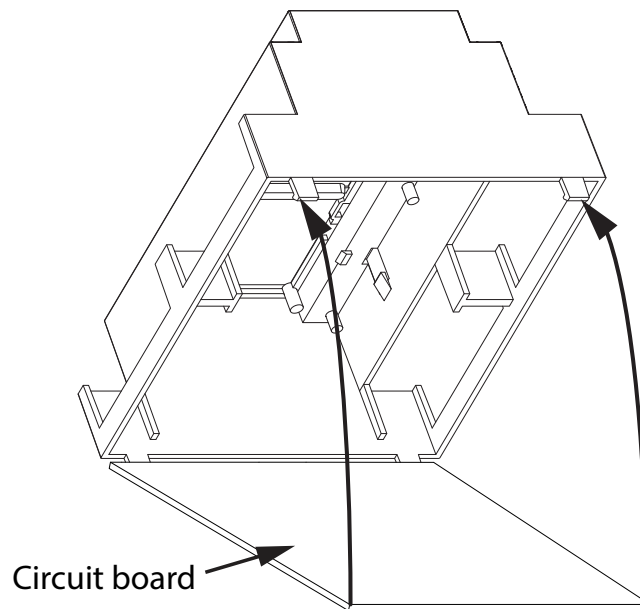

Figure 7 Fit the circuit board in enclosure
1. Hold the circuit board with one hand, and with the other hand lift the tabs so that you can fit the circuit board into the enclosure as shown in Figure 7.